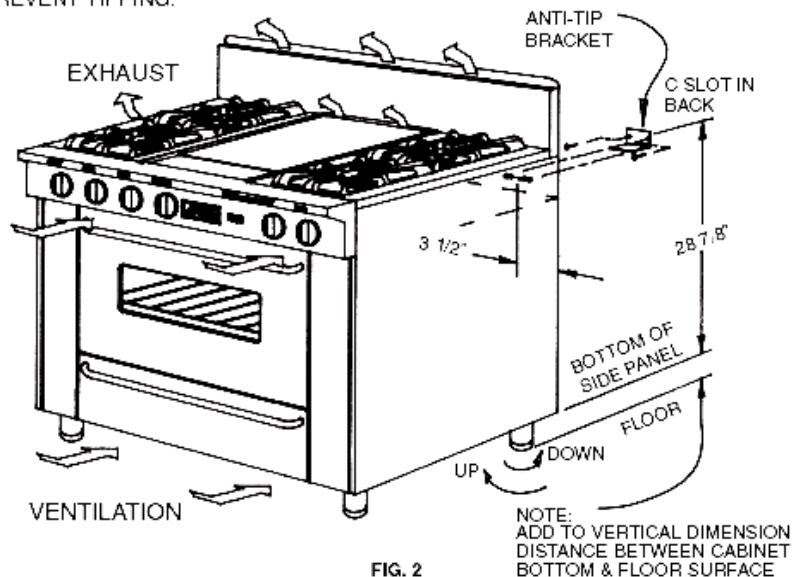

FIG. 2
- 3) REMOVE RANGE AND INSTALL ANTI-TIP BRACKET TO WALL, SEE NOTE, FIG. 2.
NEVER BLOCK THE FLOW OF AIR FOR COMBUSTION OR VENTILATION. SEE FIG. 2.
Ranges and cooktops must be level to obtain proper cooking results. Ranges adjust from $35 \frac{7}{8}$ " to $37 \frac{7}{8}$ " or 2" max. All units must be level front-to-back and side-to-side. See FIG. 2.